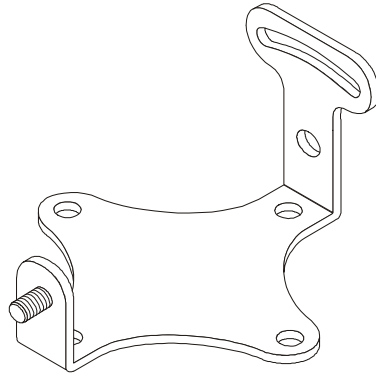

Figure B-1. Mounting Plate
- One mounting plate (see Figure B-1)